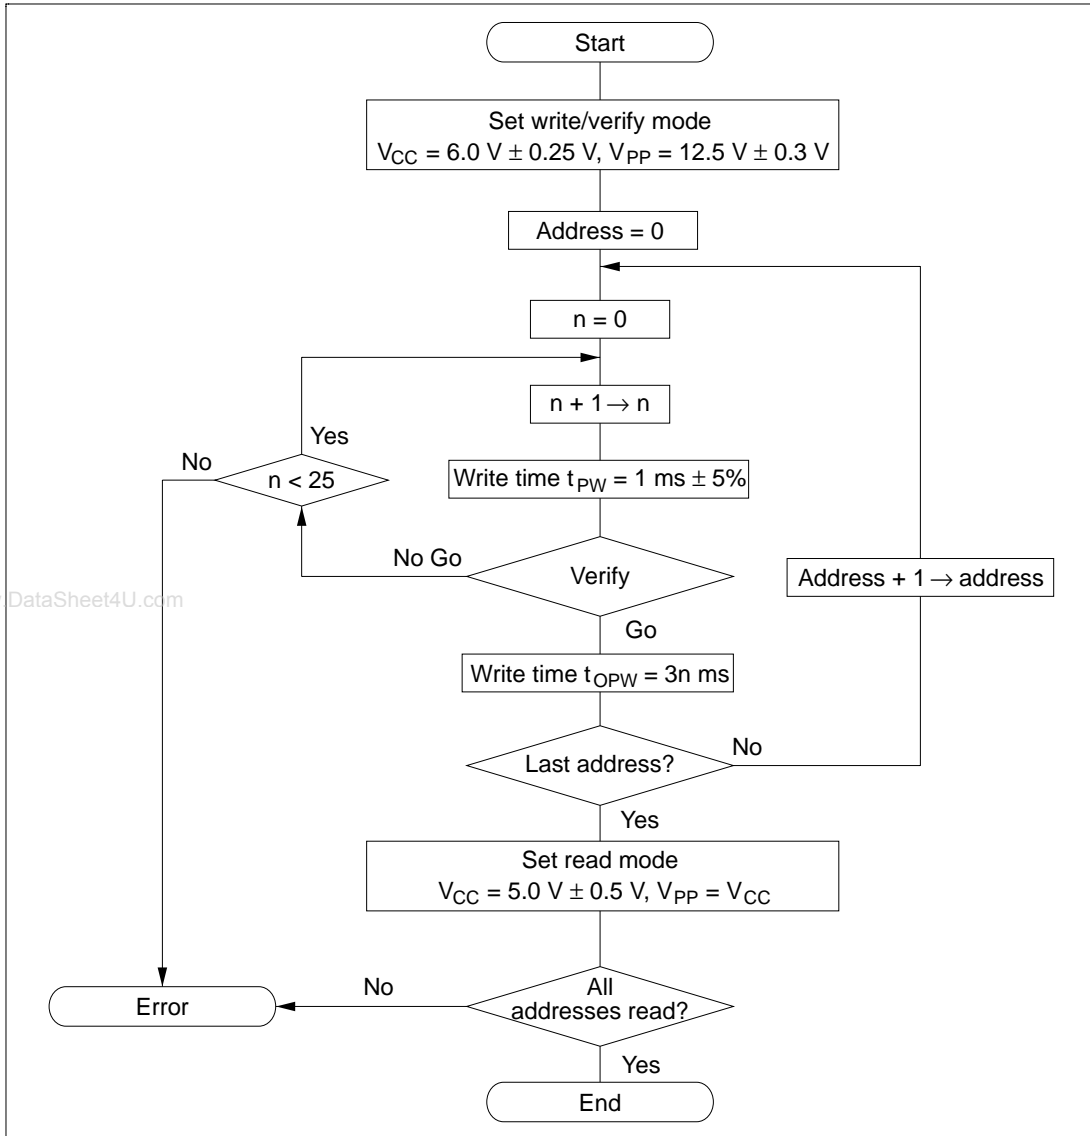
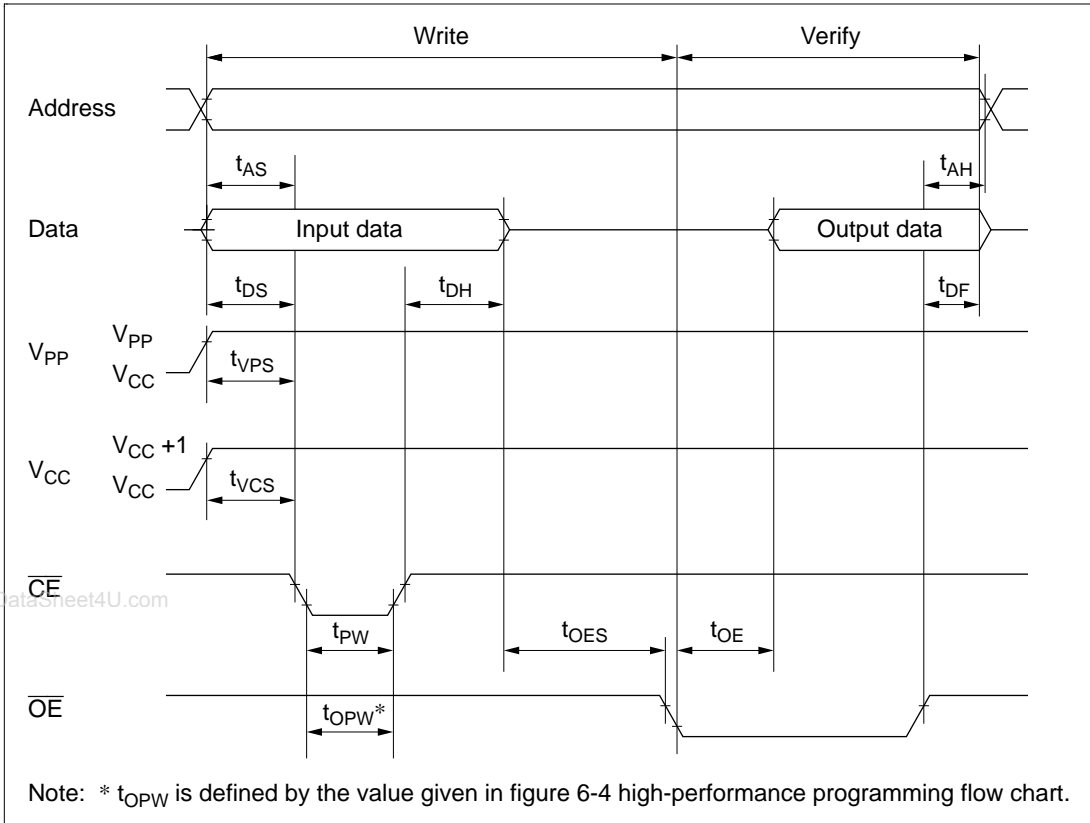

Figure 6.4 High-Performance Programming Flowchart
Figure 6.5 PROM Write/Verify Timing
The basic flow of this high-performance programming method is shown in figure 6.4. Table 6.4 and table 6.5 give the electrical characteristics in programming mode. Figure 6.5 shows a write/verify timing diagram.
- t_{OPW} is defined by the value given in figure 6.4 high-performance programming flow chart.